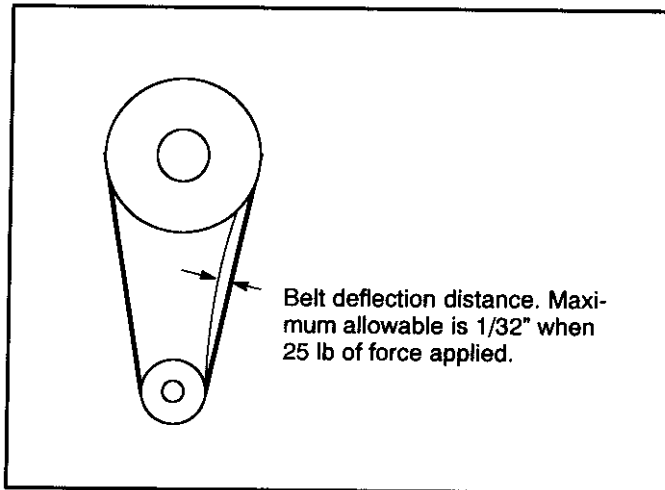

Figure 20. Elevation Drive Belt Deflection.
- b. Inspect the elevation drive belt for correct tension by determining the amount of deflection on the side of the belt. The method for measuring belt deflection is shown in Figure 20.